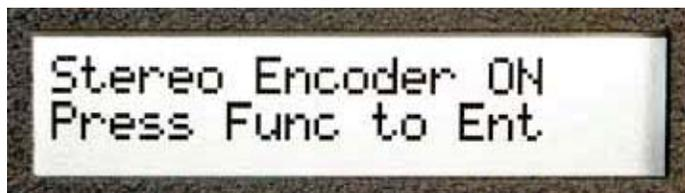

Figure 3-6. Press the RAISE or LOWER key to Change the LCD Display
2. To change the Stereo Encoder setting, press the RAISE or LOWER key which will result in the alternate setting (see Figure 3-6).